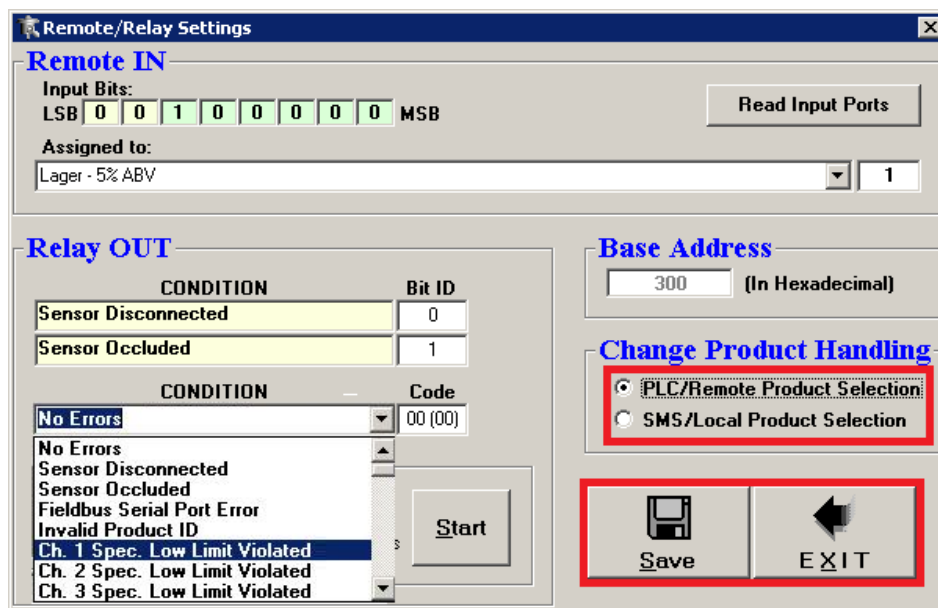

Fig. 6
- o Go to EDIT >> REMOTE / RELAY Parameters. See Figure 6